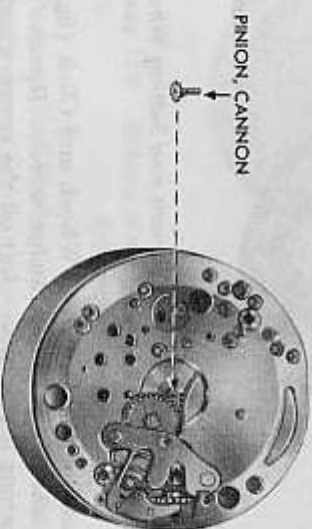

Figure 174 — Bulova Wrist Watch — Cannon Pinion Removed
- j. Remove Cannon Pinion (fig. 174). Grasp cannon pinion with pin vise and lift it up and off.
- i. Replace Cannon Pinion (fig. 174). Invert the movement on movement block and support the upper center wheel pivot while pressing the cannon pinion on its seat.